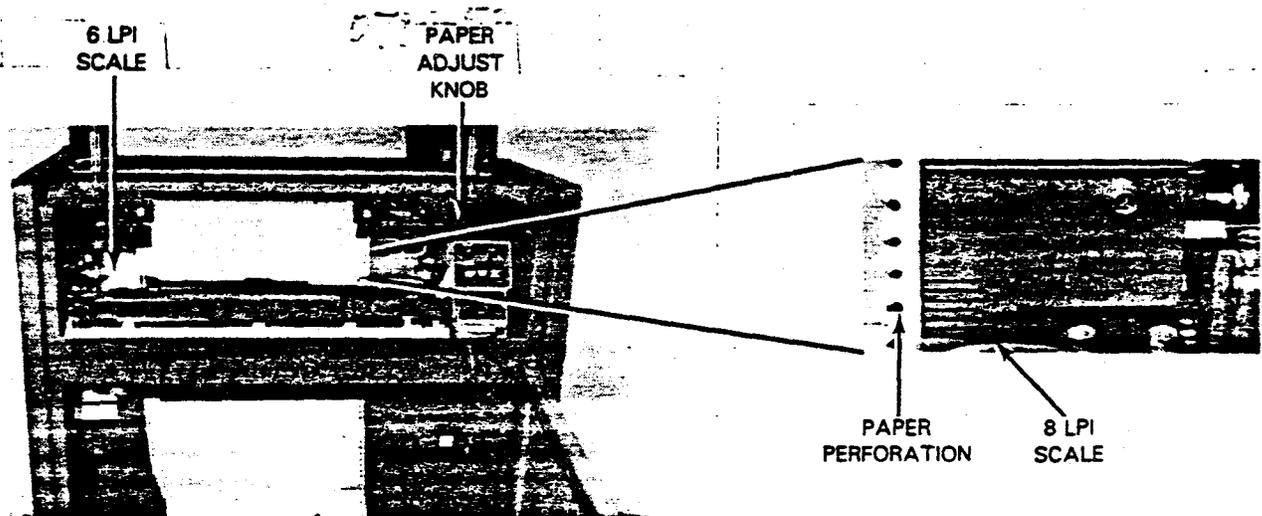

Figure 4-8. Vertical Spacing and Density Adjustments
20. Turn the paper adjust knob (Figure 4-8) to move the paper vertically, and align the form perforation with the applicable top-of-form index scale. For example, to set the form perforation at 6 on the 8 LPI scale, the first printed line will be 6 lines below the paper perforation. The top-of-form index scale for 8 LPI is to the right of the form, and the scale for 6 LPI is to the left of the form.